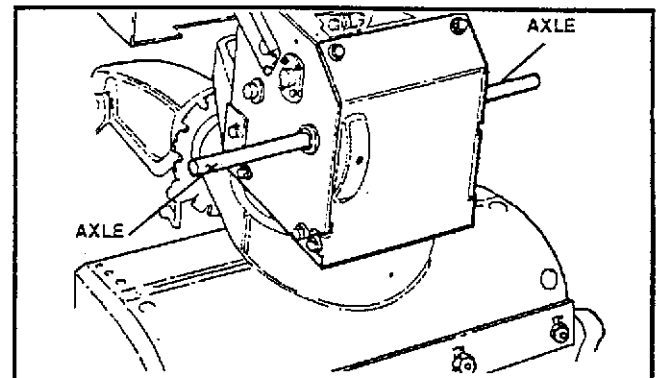

FIG. 3-MAINT
- Remove both wheels, grease (any automotive type grease) both axles (See FIG. 3-MAINT) and replace wheels. Do this at least once a year and/or prior to storage.